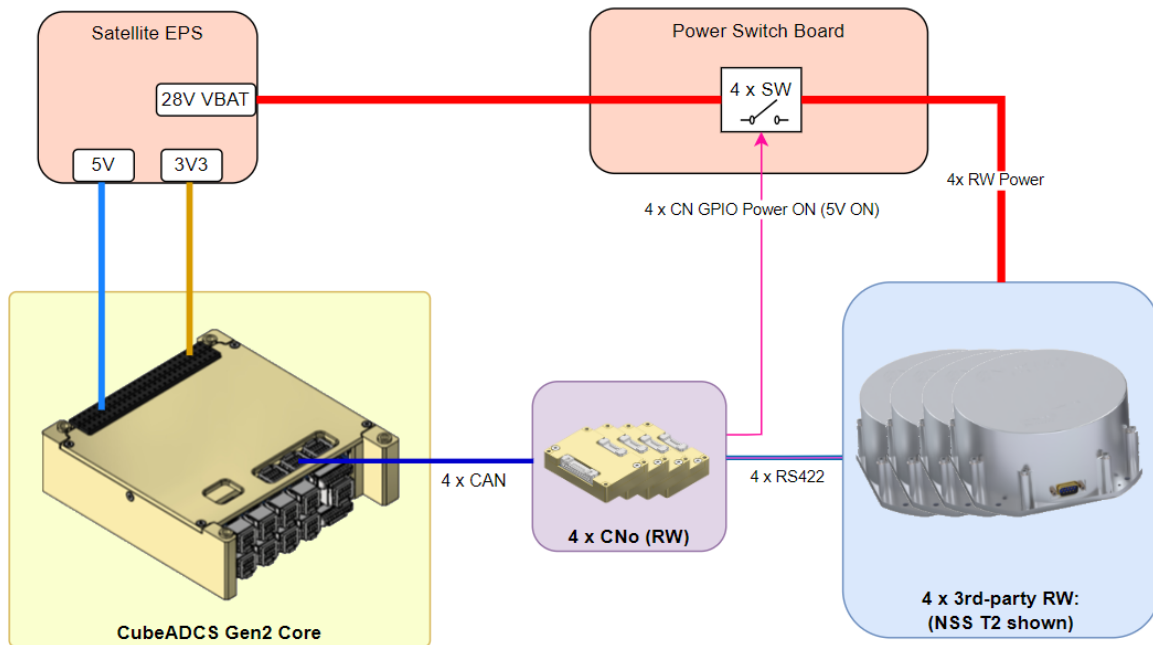
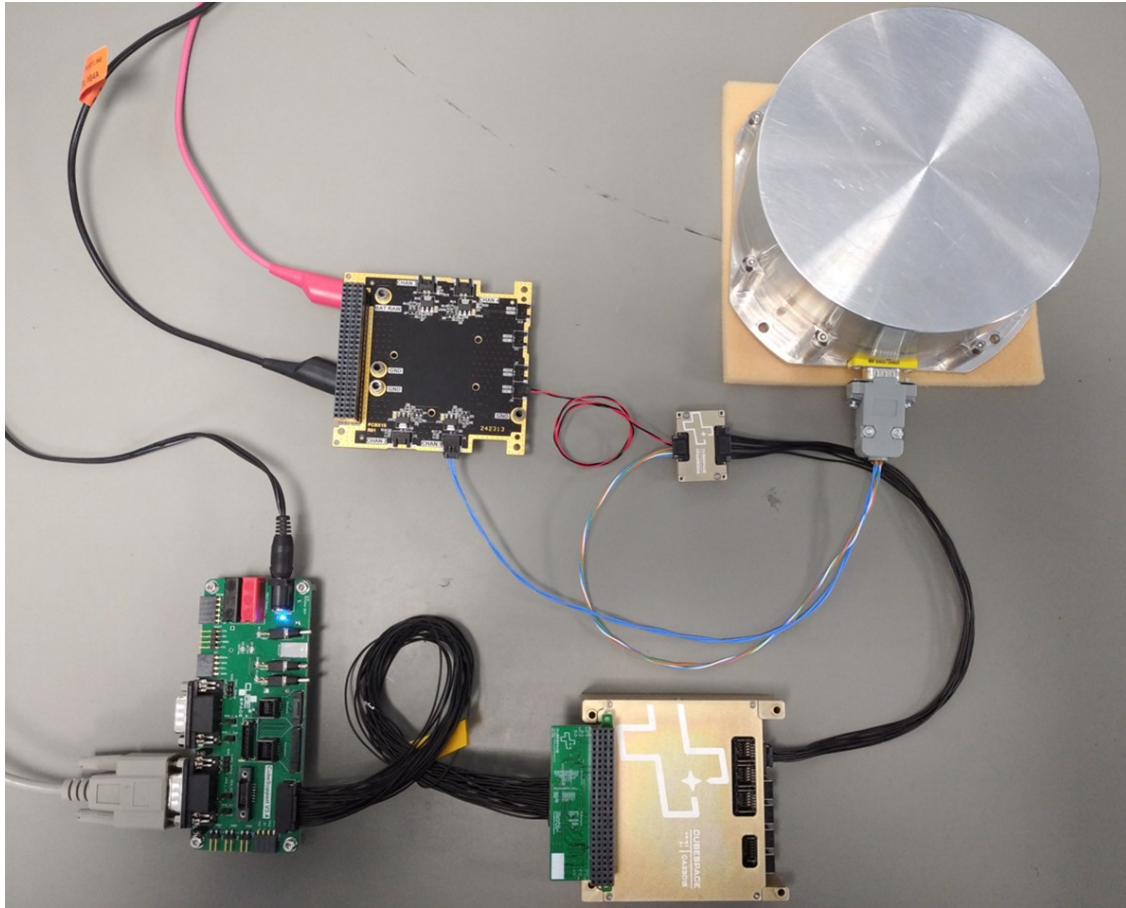

Figure 71: High-level diagram of CubeADCS, CubeNodes, Power Switch Board, and reaction wheels
Figure 72: CubeADCS, CubeNode, Power Switch Board, and T2 reaction wheel
A high-level diagram of the setup for testing a third-party reaction wheel is shown in Figure 71. Specifically, NSS T2 Reaction Wheels are shown, but performing the health checks of other third-party reaction wheels will follow the same procedure as discussed below. A power switch board, not manufactured or supplied by CubeSpace, is also shown in Figure 71. In some configurations, this board or module is required to switch the power to the reaction wheel on or off, controlled by a 5V GPIO output of the CubeNode plugged into one of the Actuator headers on the CubeADCS core. The exact configuration of the test setup will depend on the client's selected options.
An actual test setup of this arrangement is shown in Figure 72, with no other sensors or actuators plugged in, for clarity. While the CubeSupport PCB is still supplied with **12.0 V** during ground testing, the power for the Power Switch Board must be supplied from another bench PSU set to **28 V, 1.5 A**. Each additional connected reaction wheel will require an additional **1.5 A** of current (for example, for four wheels, the required power supply is **28 V, 6 A**). If one PSU channel cannot provide this current, this can instead be achieved by connecting more PSU channels in parallel.
- 1) Connect the CubeADCS to the CubeNode(s) and to the CubeSupport board as shown in Figure 72, **but do not connect anything else to the CubeNode output(s) yet**. Connect the CubeSupport PCB to a 12.0V power supply.
- Proceed with performing the remaining connections between the CubeNode(s) and the third-party devices, as shown in Figure 71 and in Figure 72.